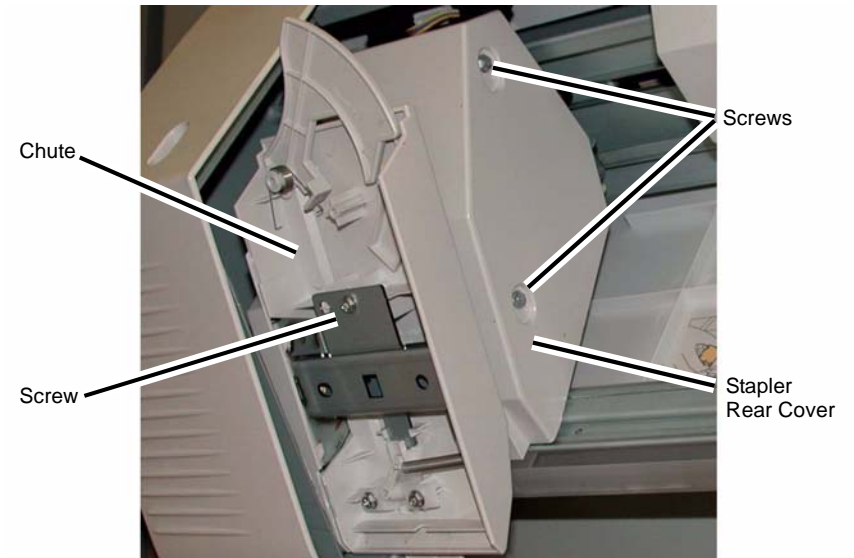

Figure 3 Removing the Chute and Stapler Rear Cover
5. Remove the Chute (Figure 3).
- (1) Remove the Screw (1).
- (2) Remove the Chute.
6. Remove the Stapler Rear Cover (Figure 3).